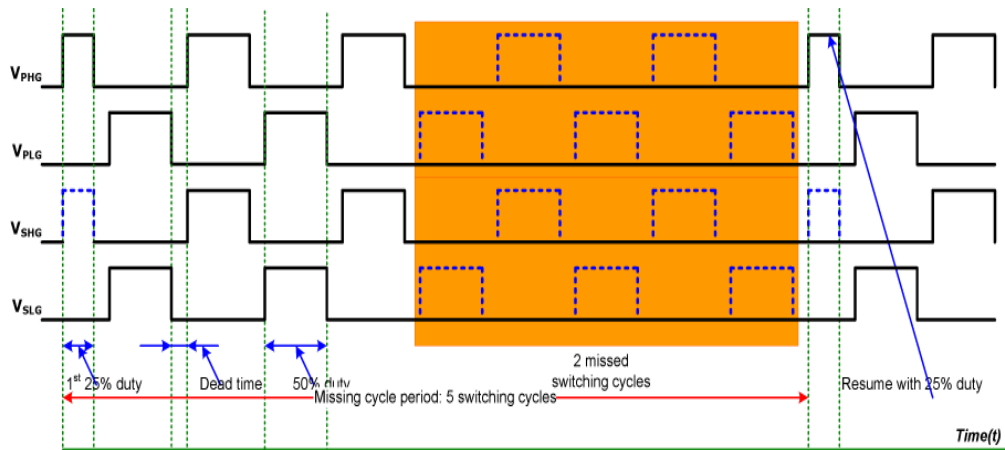

Figure 11 ICE2HS01G gate output during Missing Cycle
If the current sense voltage is lower than the preset reference level on Vmc pin for 20ms, IC enters into a Missing Cycle (MC) mode, where every two out of five switches are removed to reduce the average switching frequency. Vref pin is the output of internal reference voltage, which is an accurate 5V voltage source, with up to 2 mA. A typical output gate drive waveforms in MC mode is shown in Figure 11.